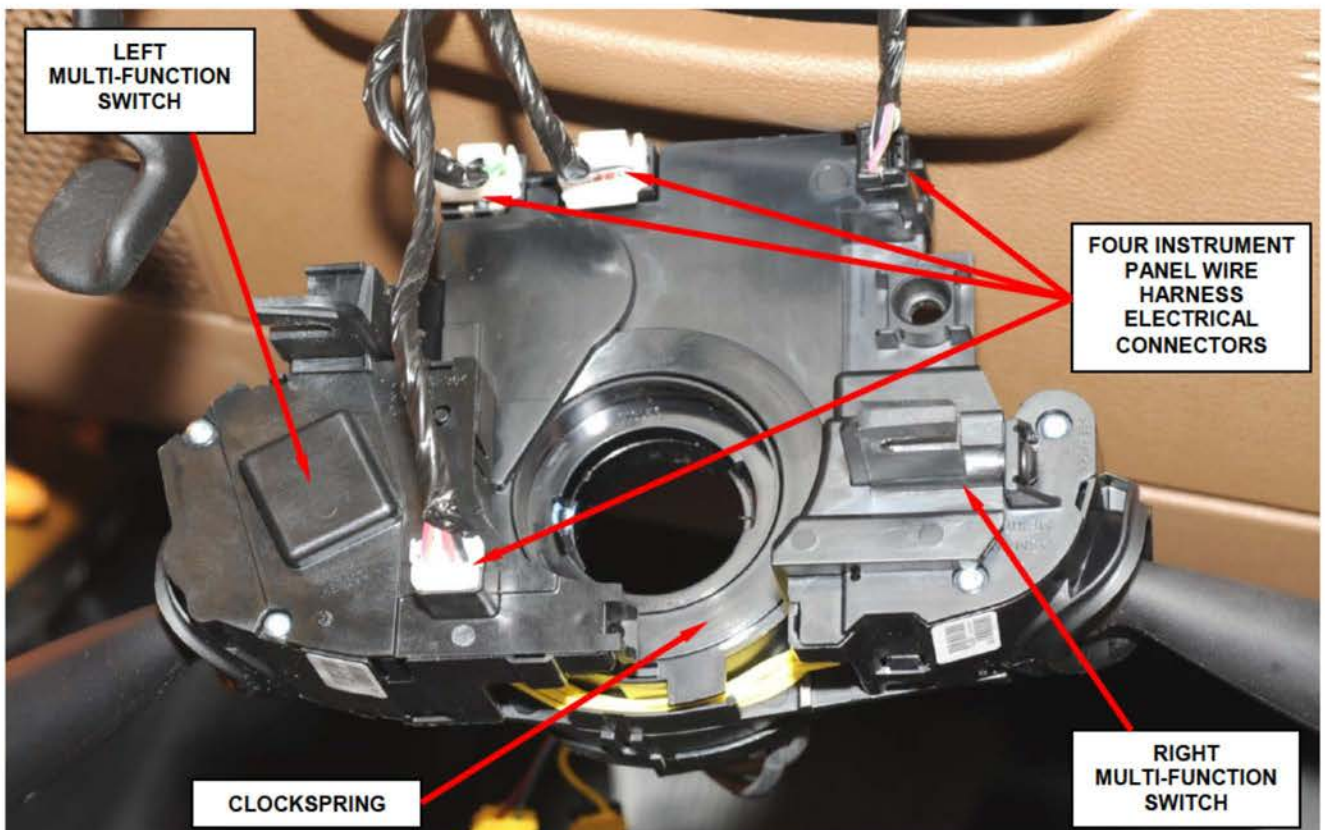

Figure 4 – Clockspring Electrical Connectors
10. Pull the clockspring away from the steering column lock housing far enough to access and disconnect the four instrument panel wire harness connectors from the receptacles on the back of the clockspring (Figure 4).
20. Connect the four instrument panel wire harness connectors to the receptacles on the back of the clockspring (Figure 4).